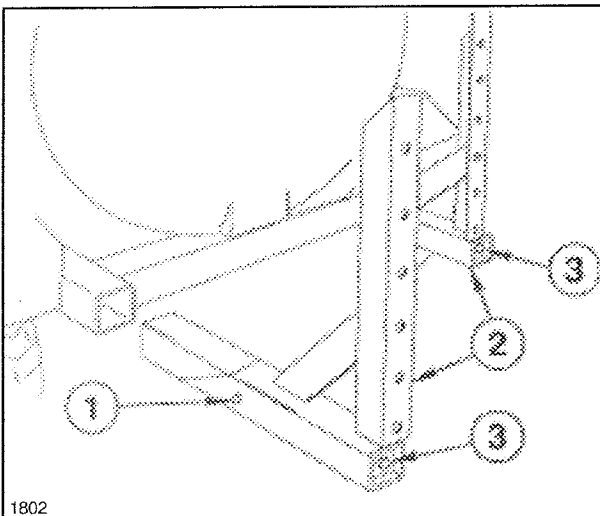

FIG. 1
2. Remove Stop Pins in Boom Mount Assemblies. Apply a heavy coating of grease to the tubes of the two (2) Boom Mount Assemblies and insert them into the Vehicle Frame until Angled Gusset bottoms out against Vehicle Frame. (See FIG. 1)